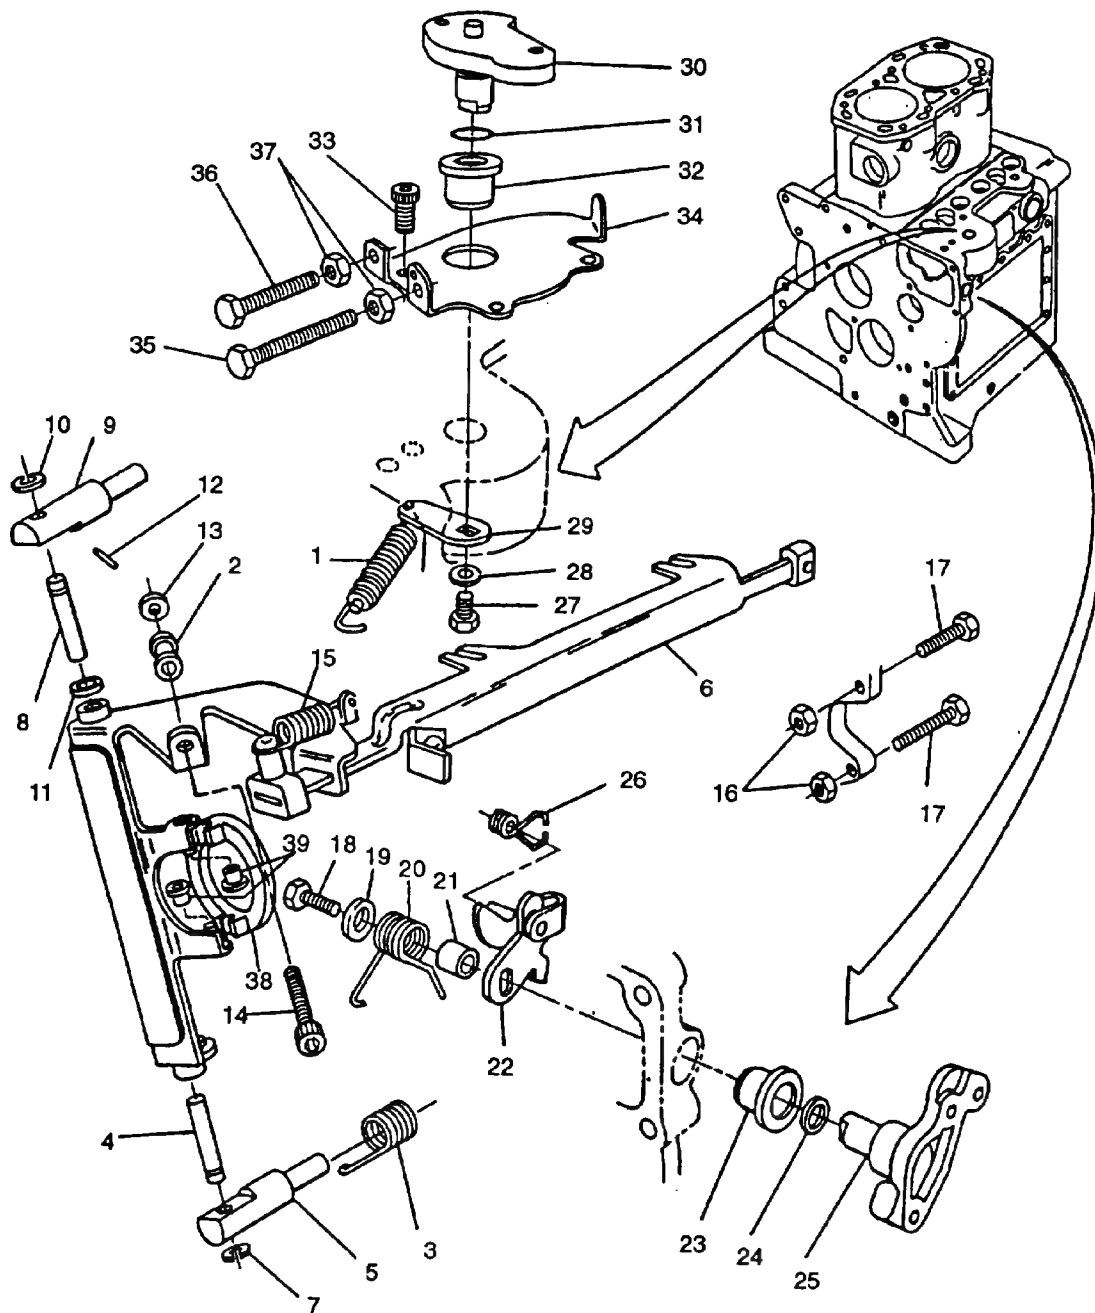
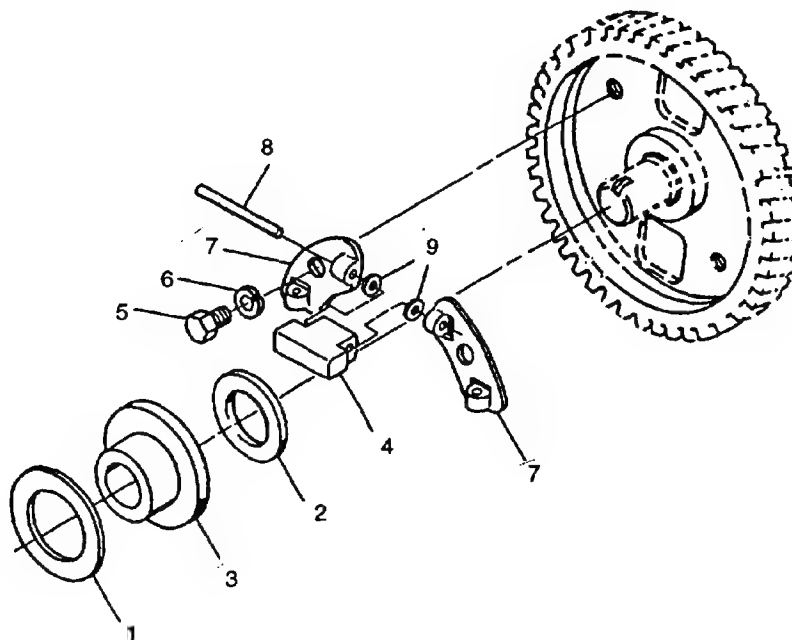

FIGURE 3-19. Governor System
FIGURE 3-20. Governor Weights
- c. Unhook speeder spring (1, **FIGURE 3-19**) from retainer (2) and lever (29); remove spring.
- d. Unhook spring (3) from pivot pin (4).
- e. Remove lower pivot pin (4) from lower pivot support (5) and governor lever (6). Remove pivot retainer (7). Remove spring (3) from lower pivot support (5).
- f. Remove upper pivot pin (8) from upper pivot support (9) and governor lever (6). Remove pivot retainer (10). Use care to retain all end play shims (11) that are installed.
9. Carefully remove governor lever assembly and fuel pump rack (6) from crankcase.
- a. Remove two thrust washers (1 and 2, **FIGURE 3-20**) and sleeve (3) from camshaft,
- b. Remove pin (12, **FIGURE 3-19**) shim (13) and retainer (2) from droop adjust screw (14); remove screw (14).
- c. Disconnect spring (15) from governor lever (6) bushing.
- d. Remove two nuts (16) and capscrews (17) from end cover.
- e. Remove capscrew (18) and washer (19) from inside crankcase, remove spring (20), bushing (21), and lever assembly (22). From outside crankcase remove bushing (23), preformed packing (24), and lever (26). Discard preformed packing (24). Remove trip lever spring (26).
- f. From inside crankcase, remove capscrew (27) and washer (28); remove lever (29).
9. From outside crankcase, remove speed quadrant (30) and preformed packing (31). Discard preformed packing (31).
- h. If damaged, remove bushing (32).
- i. Remove capscrew (33) securing base plate (34) to crankcase; remove base plate (34).
- j. Remove two capscrews (35 and 36) and nuts (37) from base plate (34).
- k. Remove thrust collar (38) and two bushings (39) from governor lever (6).
- l. Turn camshaft until a weight (4, **FIGURE 3-20**) is horizontal.
- m. Remove capscrew (5) and lockwasher (6) securing each retainer plate (7) to camshaft gear. Remove retainer plate (7) with weights. Discard lockwasher.
- n. Remove pin (8), shims (9), and weights (4) from retainer plate.
- p. Lightly lubricate pins (8) with engine lubricating oil (MIL-L-2104) and install them and shims (9) in new weights (4).
- q. Install weights (4) and pins (8) with large section of weights facing out.
- r. Install retainer plates (7) and secure each with a capscrew (5) and new lockwasher (6). Tighten capscrews to 6.5 ft-lbs (8.8 Nm)
- s. Ensure all weights (4) move freely.
- t. Install two bushings (39, **FIGURE 3-19**) and thrust collar (38) on governor lever (6).
- u. Install two capscrews (35 and 36) and nuts (37) on base plate (34).
- v. Position base plate (34) on crankcase and secure with capscrew (33).
- w. If removed, install new bushing (32).
- x. From outside crankcase, install new preformed packing (31) and speed quadrant (30) into crankcase hole.
- y. From inside crankcase install lever (29) on speed quadrant (30) and secure with capscrew (27) and washer (28).
- z. From outside crankcase, position bushing (23), new preformed packing (24) and lever (25) into crankcase hole.